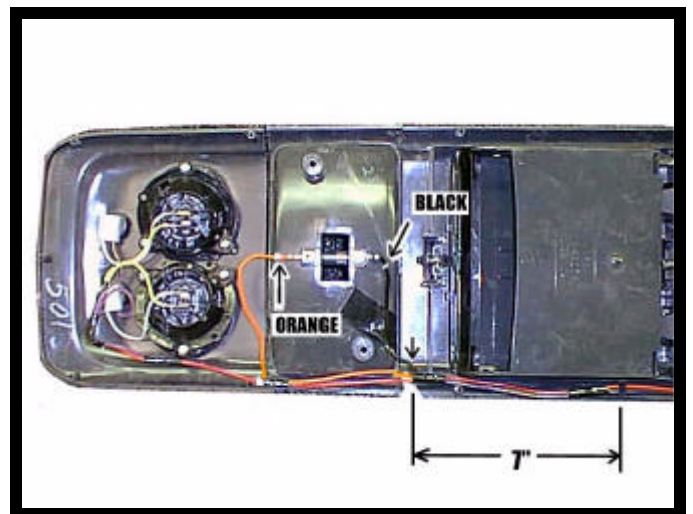

FIGURE 6
6. Cut the orange and black wires from dome light. Cut all wires 7" from tape where indicated. See Figure 6.